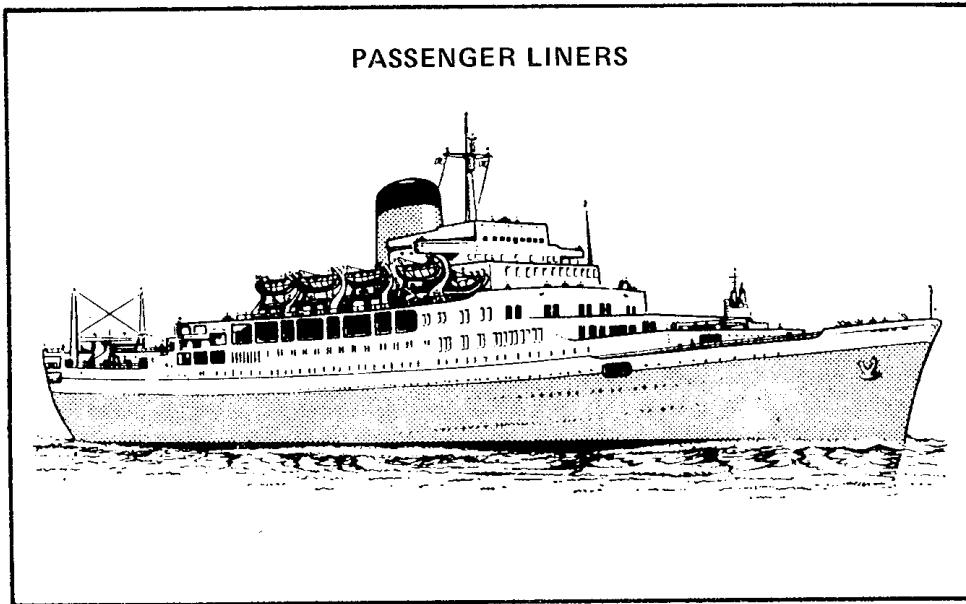

Figure 8-55 Passenger Liners
- n. **Promenade Deck** — An upper deck used mainly by passengers in the larger passenger liners. (See Figure 8-55.)
- p. **Boat Deck** — The deck on which the lifeboats of a merchant ship are stowed, usually the highest deck. (See Figure 8-55.)
- q. **Lifeboats** — Boats carried by all merchant ships for saving life. They are slung from davits. (See Figure 8-55.)
- s. **Kingpost** — A vertical tubular structure placed in the vicinity of a hatchway. Such posts erected in pairs athwartships are described as twin king-posts. (See Figures 8-55 and 8-56.)
- ab. **Liner** — Any ship which sails on a regular route with fixed ports of call. (See Figures 8-55 and 8-56.)
- a. **Passenger Liner** — (See Figure 8-55.) Passenger liners were originally designed for carrying passengers between the major ports of the world. They vary in size from about 10,000 tons gross to 84,000 tons gross, and carry comparatively little cargo because most of their capacity is devoted to the accommodation for passengers and their baggage, food, stores and a large crew. Their speed varies from about 14 to 30 knots or more, and for this reason they usually carry mails. They can be distinguished by their **size** and **long, high upperworks**, and, at night in peacetime, by the **blaze of lights from their hulls and superstructures**. The most general use of passenger liners nowadays is as cruise ships.